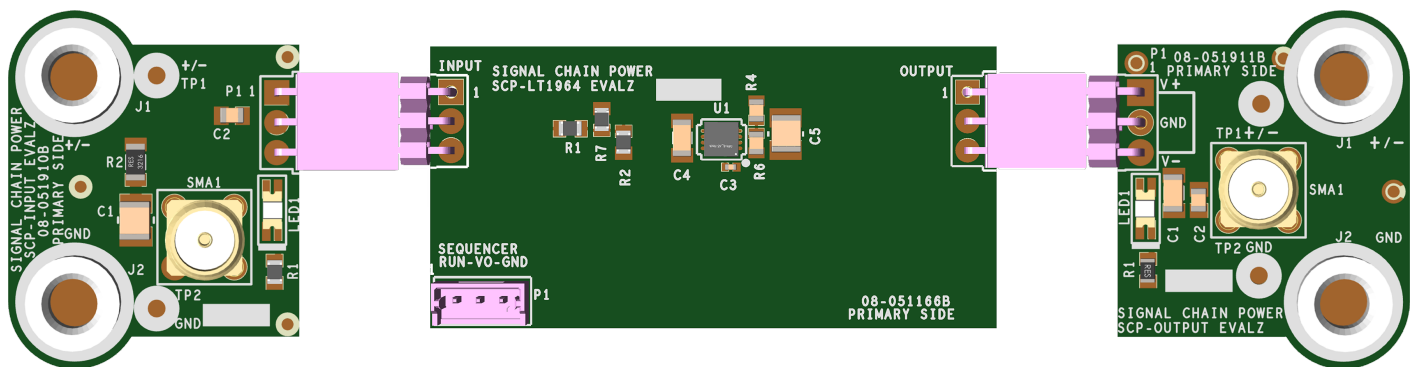

Figure 2. Proper Measurement Equipment Setup (Use SMA connectors for Measuring Input or Output Ripple)
2. Connect the SCP-INPUT-EVALZ and SCP-OUTPUT-EVALZ boards to the SCP-LT1964-EVALZ (refer to Figure 2) and connect the input board to a voltage source, V_{SOURCE} . Connect the output board to a voltmeter or dynamic load. Slowly raise the input voltage until the SCP-LT1964-EVALZ powers up into regulation and sweep V_{SOURCE} through the desired range of operation.